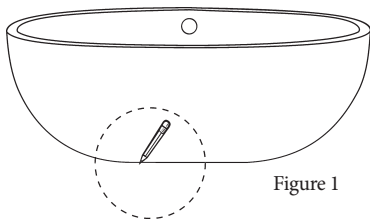

Figure 1
2. Place the unit in the exact installed position on the floor and trace the outline of the bath with a pencil or any erasable marking (Figure 1).